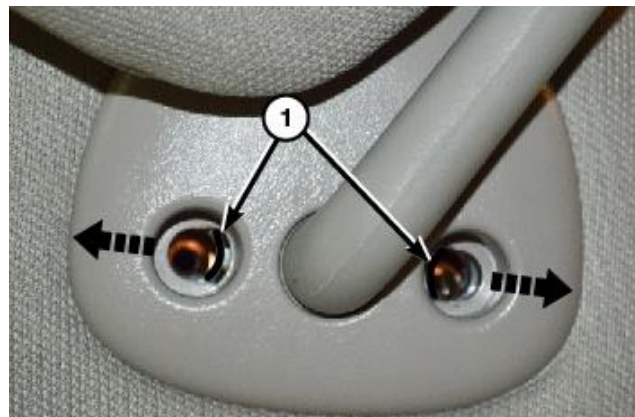

Figure 68 – Visors
Using a small flat bladed tool or equivalent, release the retaining tabs (1) and separate the visor from the headliner (Figure 68).